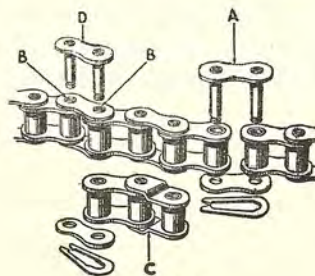
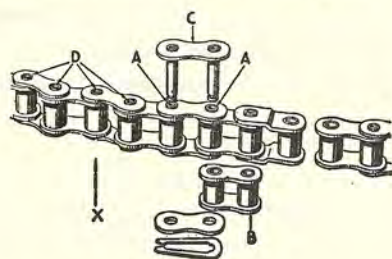

Fig. X8.
Fig. X9.
After a big mileage, the rear chain may have stretched so that no further adjustment is possible by the usual method. In this case it is possible to shorten the chain by one link or pitch, so increasing its useful life. First remove the single connecting spring link (A) securing the two ends of the chain (Fig. X8). If the chain terminates in two ordinary links as in Fig. X8 (in which case the chain will be of an even number of pitches) extract the third and fourth rivets (B) from the end and replace the detached three pitches by a single connecting link (C). The connection is made with an additional spring link (D). If one end of the chain has a double cranked link (Fig. X9)—in which case the
If a roller or link has been damaged (X, Fig. X9) remove rivets (D), take out the damaged link and replace with one inner link, secured by two single connecting links.